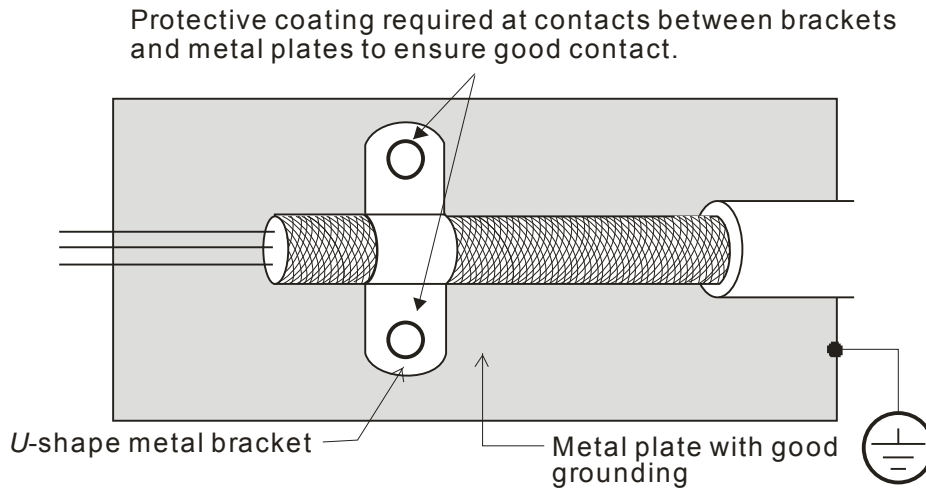

Figure 1
2. Remove any paint on metal saddle for good ground contact with the plate and shielding as shown in figure 1.